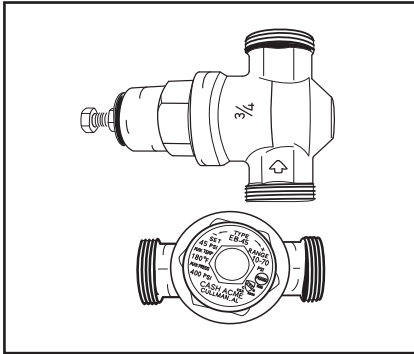

Figure 3 - Install a Pressure Reducing Valve set to 50 to 60 PSI.
- Pressure Reducing Valve (Figure 3)